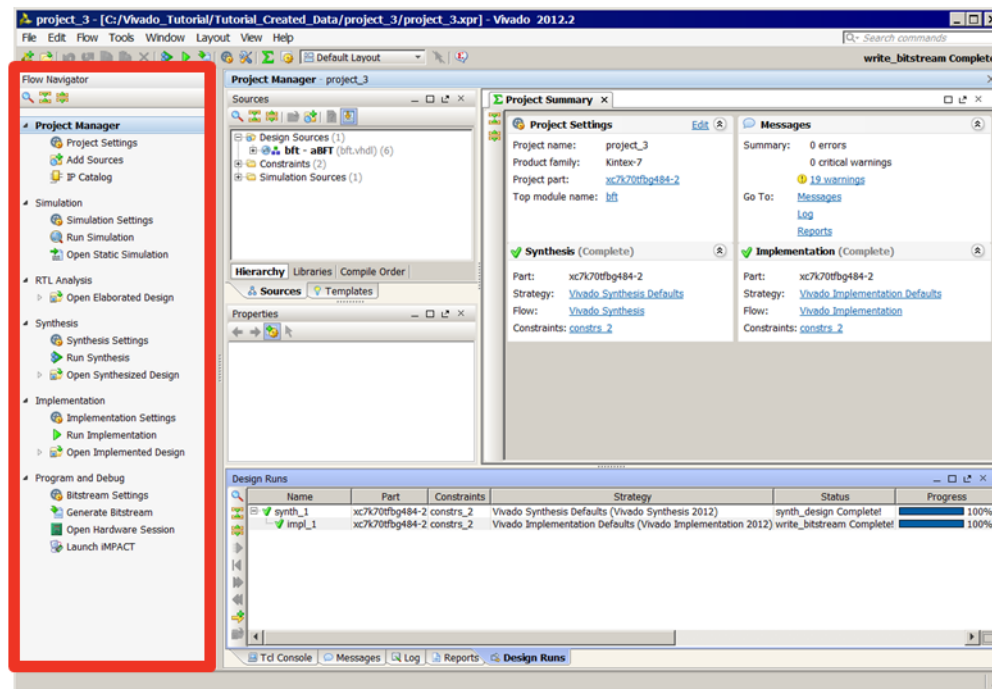

Figure 3-1: Flow Navigator in the Vivado IDE
Project Mode is the easiest way to get acquainted with the tool behavior and Xilinx® recommendations. In this mode, you use the Vivado IDE to automatically manage your design and design process. You can use the Flow Navigator within the Vivado IDE (Figure 3-1) to launch predefined design flow steps, such as synthesis and implementation. The Vivado IDE creates a directory structure and automatically manages your design, including management of source files, constraints, IP data, synthesis and implementation run results, and reports.
- In GUI mode, you can use Flow Navigator (Figure 3-1) to launch predefined design flow steps, such as synthesis and implementation, and use various design analysis features. The GUI mode is the easiest way to get acquainted with the tool behavior and Xilinx recommendations.